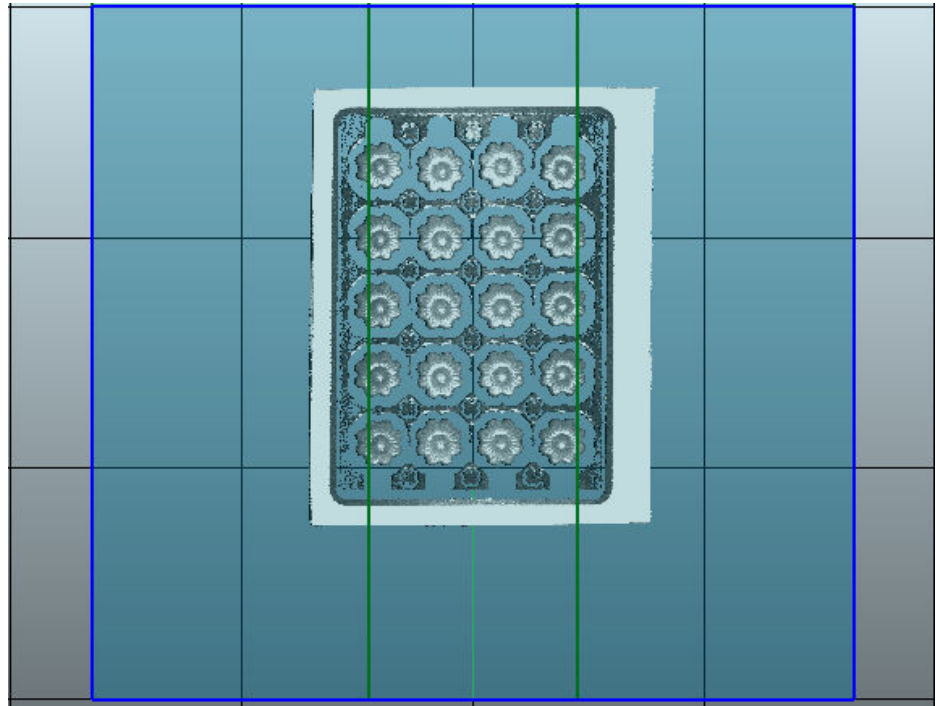

Figure 35: TriSpector1030 emulator image
2. Go to the **Image** workflow step and check that chocolate box images are displayed in the image area according to figure 35.